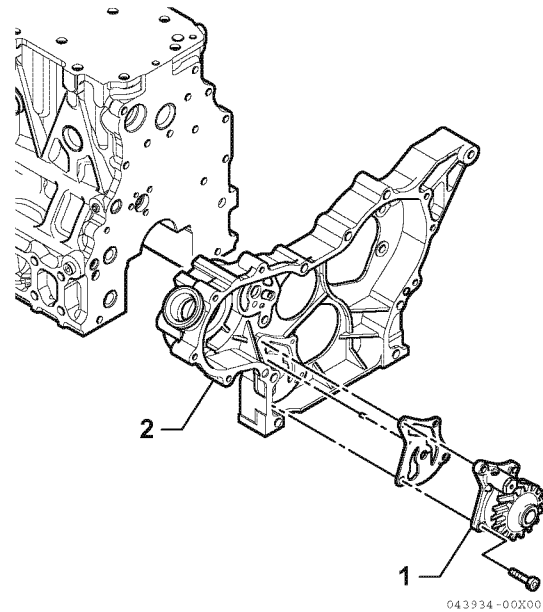

Figure 9-5
3. Remove the lubricating oil pump assembly mounting bolts. Remove the lubricating oil pump assembly (**Figure 9-5, (1)**) from the gear case flange (**Figure 9-5, (2)**).